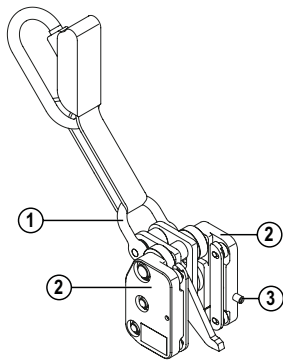

Fig. 16 Safety-runner (GÜFA 5)
1. Hold the safety-runner on the shackle (1) and base body (2) with a slight downward pull and guide it into the arrester rail in the guide direction.
2. The shaft screw (3) prevents incorrect insertion into the arrester rail (Fig. 16).